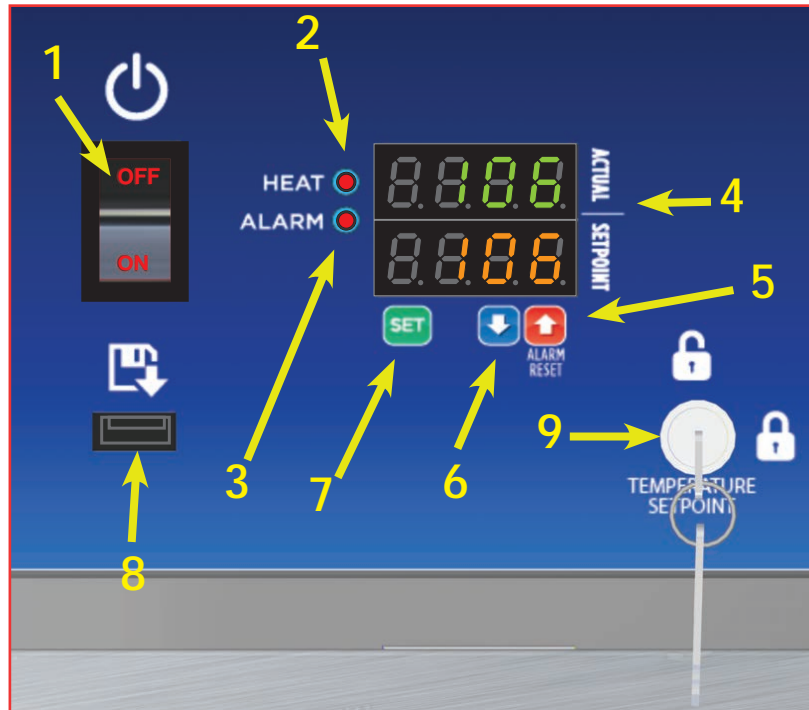
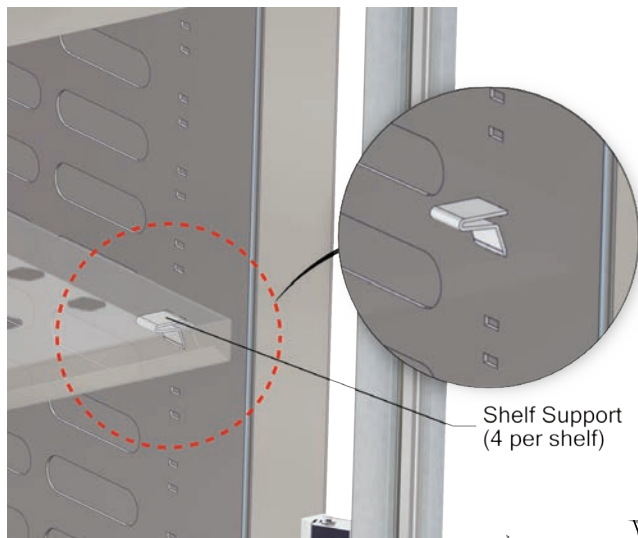

Fig. 15: Controller Display
Fig. 16: Shelf Support
1. First, insert the top tab of one end of the roller channel into a slot (the roller channel width spans 4 slots). Fig. 15 & Fig. 16.